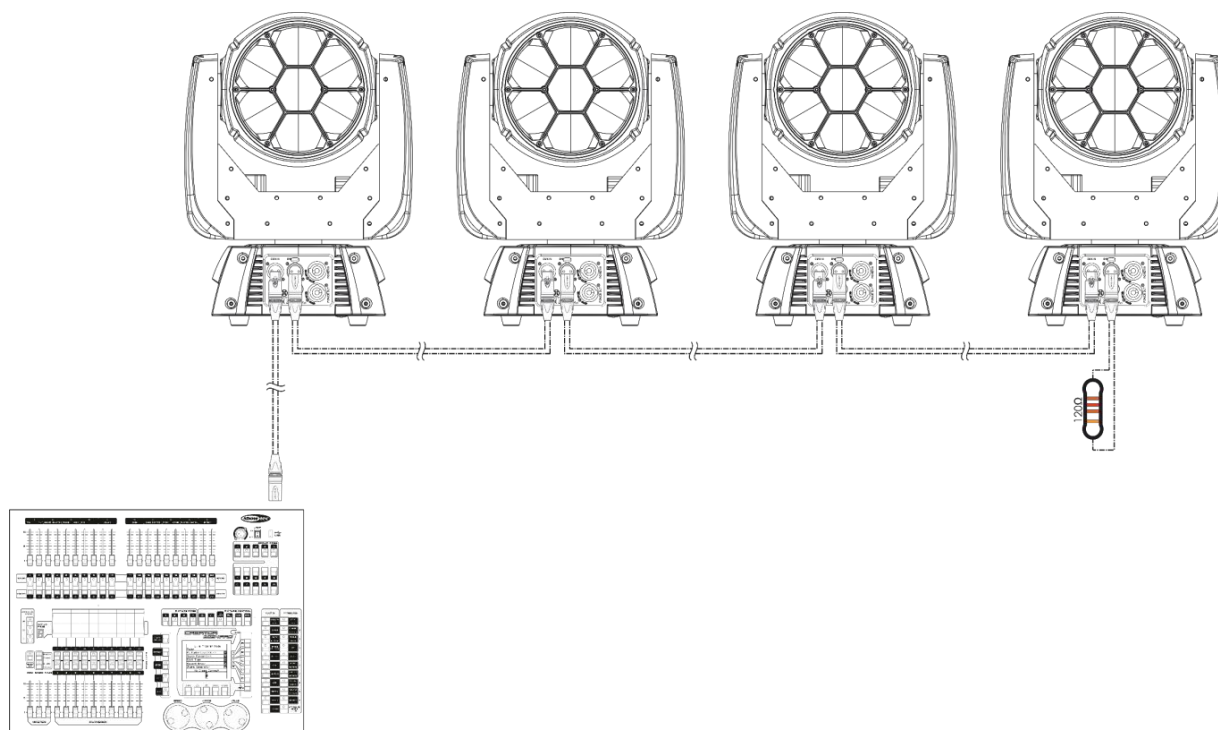

Fig. 05
- 05) Link the units as shown in fig. 05. Connect a DMX signal cable from the first unit's DMX "out" socket to the second unit's "in" socket. Repeat this process to link the second, third and fourth units.